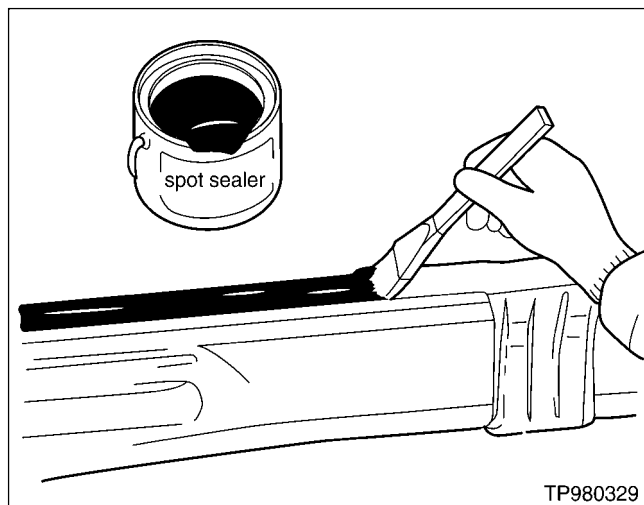

Figure 3
- Spot sealer is required for spot welding (see Figure 3)